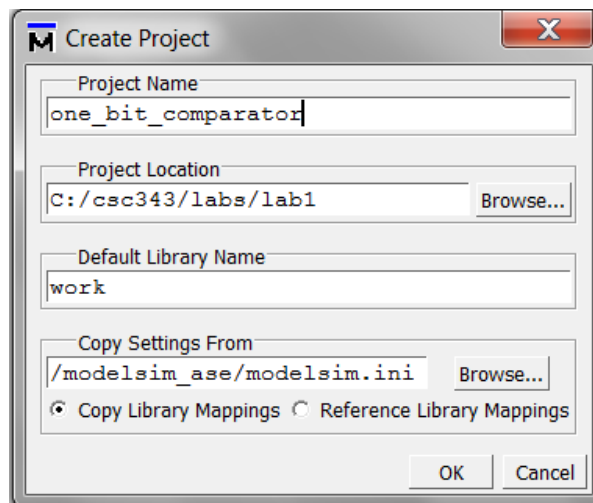

Figure 11. Create New Project dialog in ModelSim
4. The Create New Project dialog appears, enter a name for your project, you can call it **one_bit_comparator**. See figure 11.